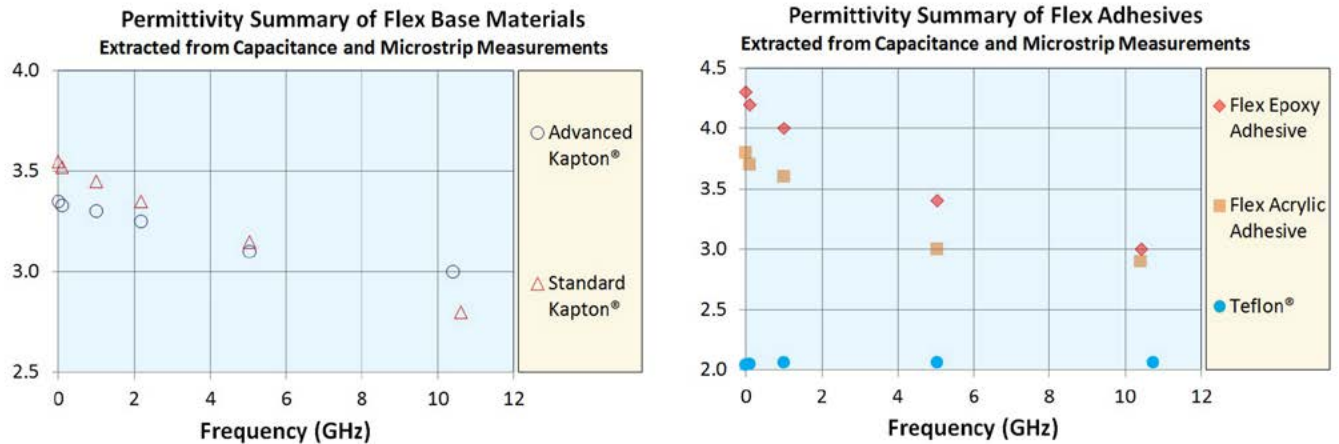
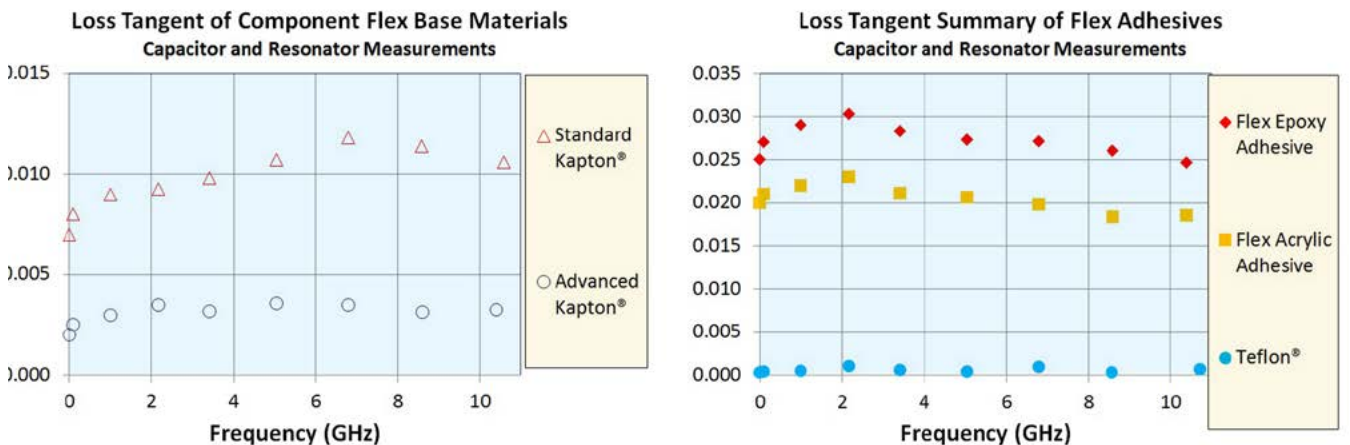
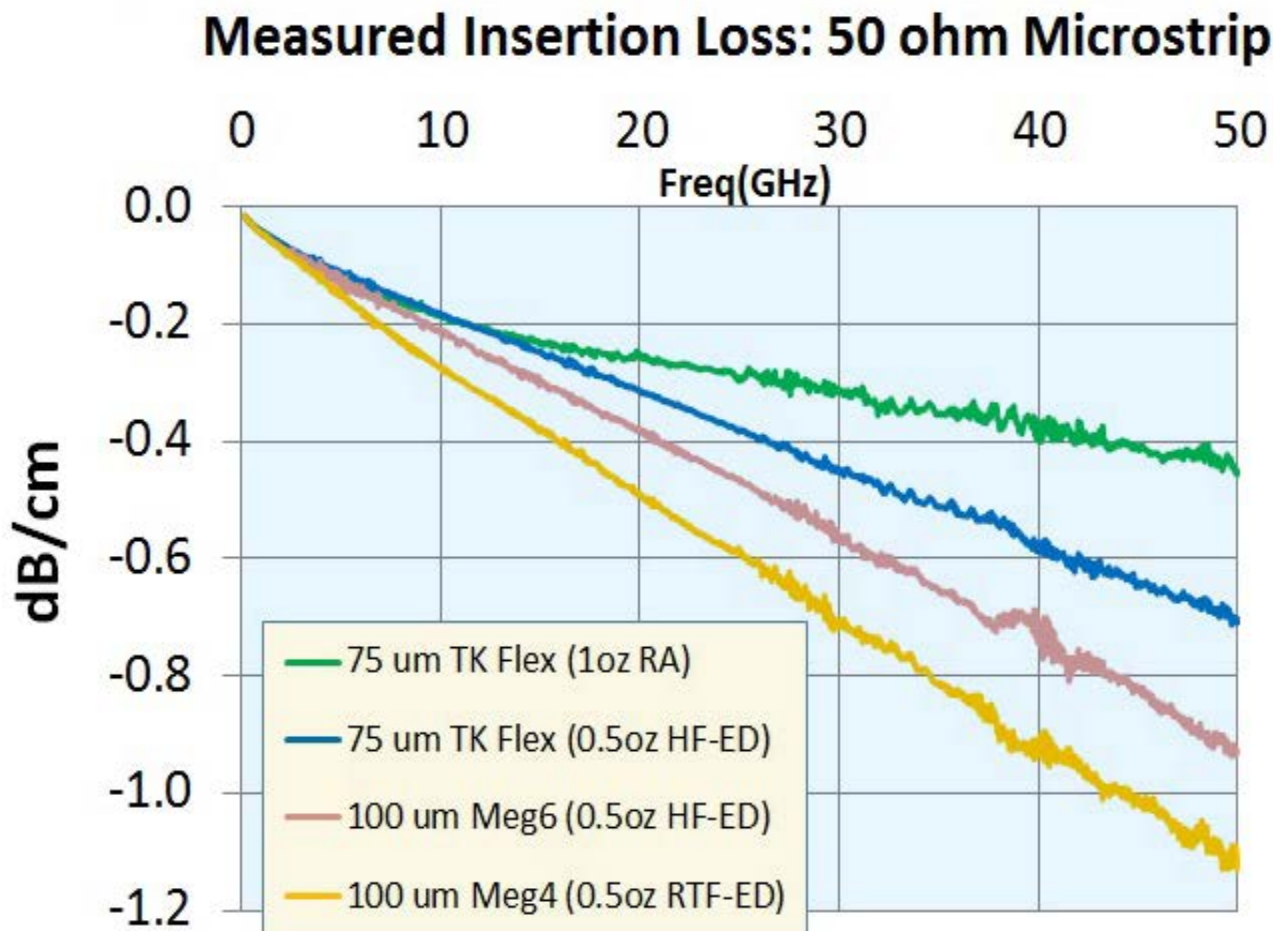

Figure 4: Relative permittivity versus frequency of flex dielectrics and adhesives.
Figure 5: Loss tangent versus frequency of flex dielectrics and adhesives.
Figure 7: Comparison of high-speed flex to high-speed rigid microstrip lines.
Europe. Figure 4 summarizes the relative permittivity versus frequency for Kapton®, Teflon® and the common adhesive materials used in flex circuits. Notice that Advanced Kapton used for high-frequency copper clad flexible laminates has lower dispersion compared to standard Kapton used for coverlay.
Loss tangent values for these same materials are also shown in Figure 5. When analyzed in concert with Figure 4, one will notice that the materials with the least amount of dispersion have the lowest loss tangent. Low loss and low dispersion are two of the primary reasons why Advanced Kapton and Teflon are used to
It is possible to utilize Teflon and Advanced Kapton together to construct flexible circuit materials^[3]. The low dispersion and low loss tangent of these materials shown in Figures 4 and 5 combine to make the optimum platform for high-speed signals in a flex circuit. Figure 7 summarizes measurements taken from microstrip transmission lines made at the same time. Common materials used in high-speed transmission (Meg4 and Meg6) are directly compared to a Teflon-Kapton composite (TK). As frequencies increase, the impact of the smoother RA copper becomes quite significant. The copper weight and type are denoted on the plot legend.